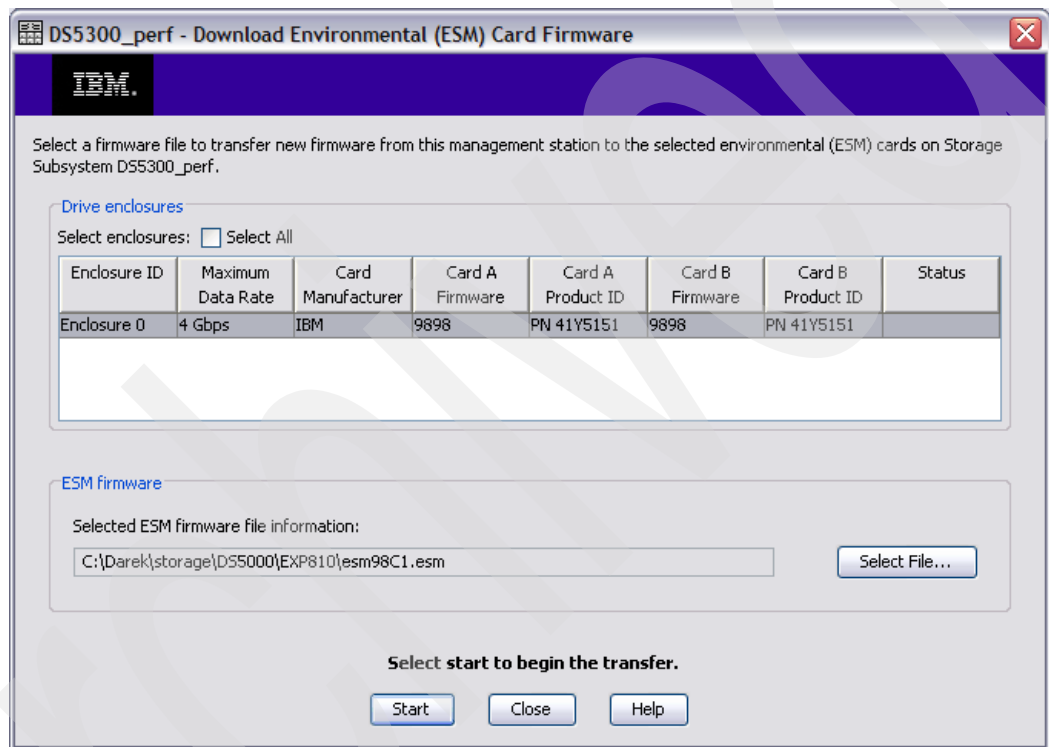

Figure 7-19 Download ESM firmware window
2. The Download Environmental (ESM) Card Firmware main window opens, as shown in Figure 7-19.